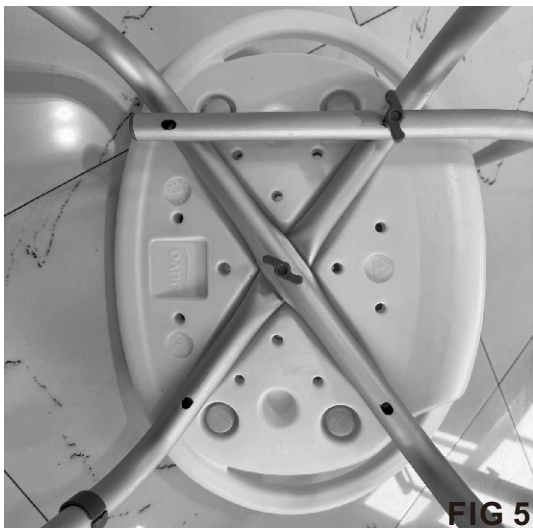

FIG 5
- Fasten Back-Rest Support Bar and U-Shaped Leg Brace to underside of chair with two Butterfly Bolts with Washers – Long. (Refer to FIG 5). Do not over tighten.